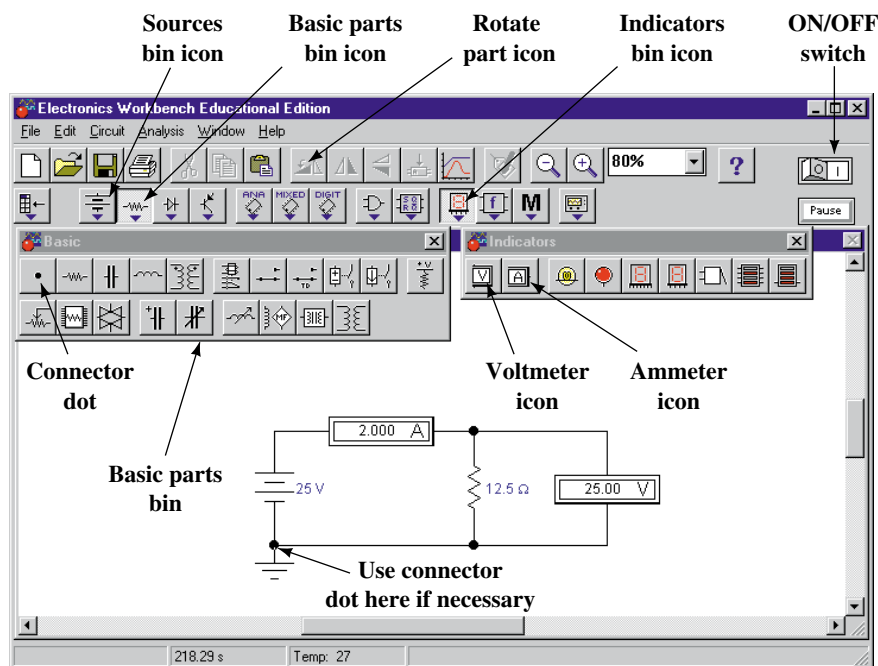

FIGURE 4-28 Electronics Workbench simulation of the circuit of Figure 4-27.
7. The order of wiring a circuit sometimes has an effect. For example, for Figure 4-28, if you connect the ground to the source before you add the wire from the bottom end of the resistor, the connector dot may not be needed.
- Drag a connector dot from the basic parts bin, position it as shown in Figure 4-28, then add a ground symbol from the sources bin. (Note: Make sure the ground connects properly. See also Note 7.)